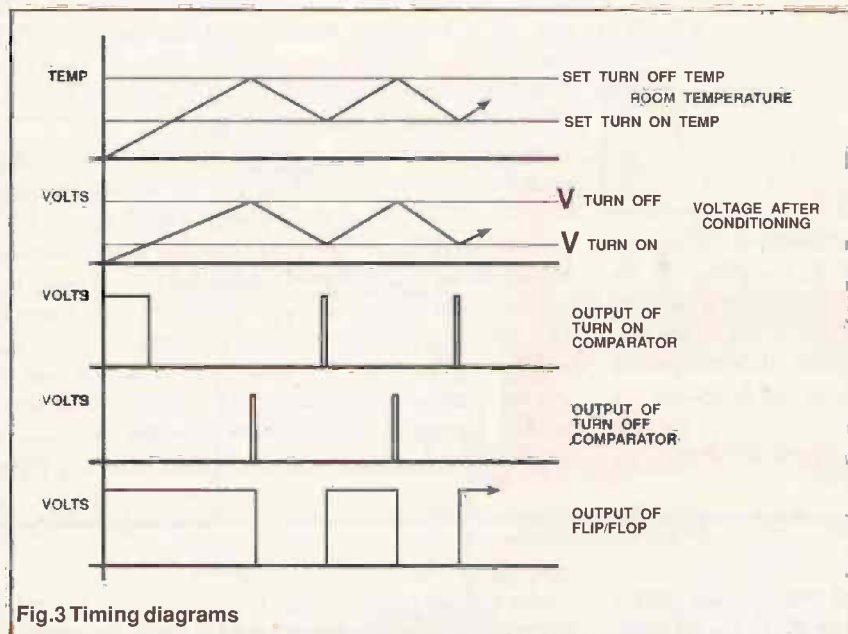

Fig.3 Timing diagrams
output goes high triggering the flip/flop which clocks in a state 1. This appears on the output line (O) which is indirectly responsible for turning on and off the heater and so the heating is turned on. As the temperature raises it will eventually reach the higher preset level and the 'off comparator's' output will now go high. The output of this comparator is tied to the flip/flop's reset pin so at this point it will be reset and the output line will return to state 0. This will turn off the heat. A diagram showing how the temperature of your room will vary and how this effects the electronics has been included in Figure 3.